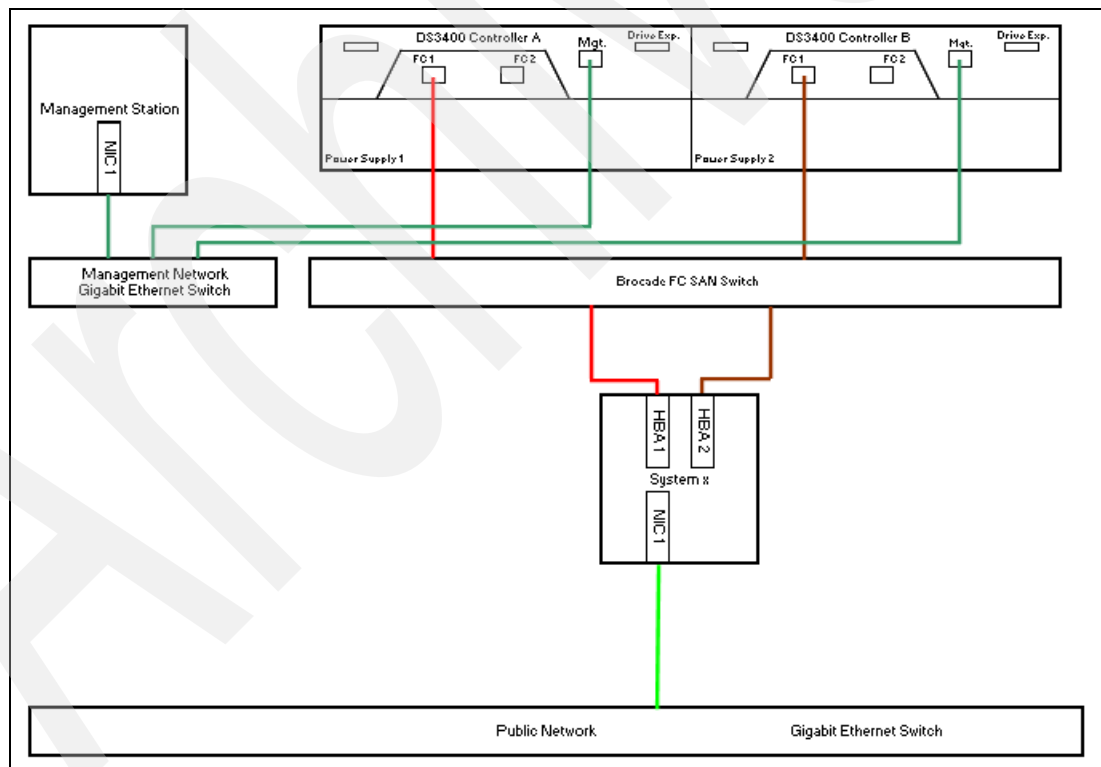

Figure 27-1 Our sample environment
In 4.5, “Host attachment” on page 40, we discuss the most common host cabling scenarios for Fibre Channel. In this sample configuration, we use a System x server as the host, connected through a single Fibre Channel (FC) switch to the DS3400 System Storage subsystem, even though we recommend having two FC switches to provide redundancy on the FC switch layer. Our topology, even though we are only using one System x host, is shown in Figure 4-8 on page 44. The System x server has two separate Fibre Channel (FC) HBAs installed. Each HBA port is connected to the switch. One connection on the switch is connected to Controller A of the DS3400 server, and another connection on the switch is connected to Controller B. Figure 27-1 shows our specific configuration.